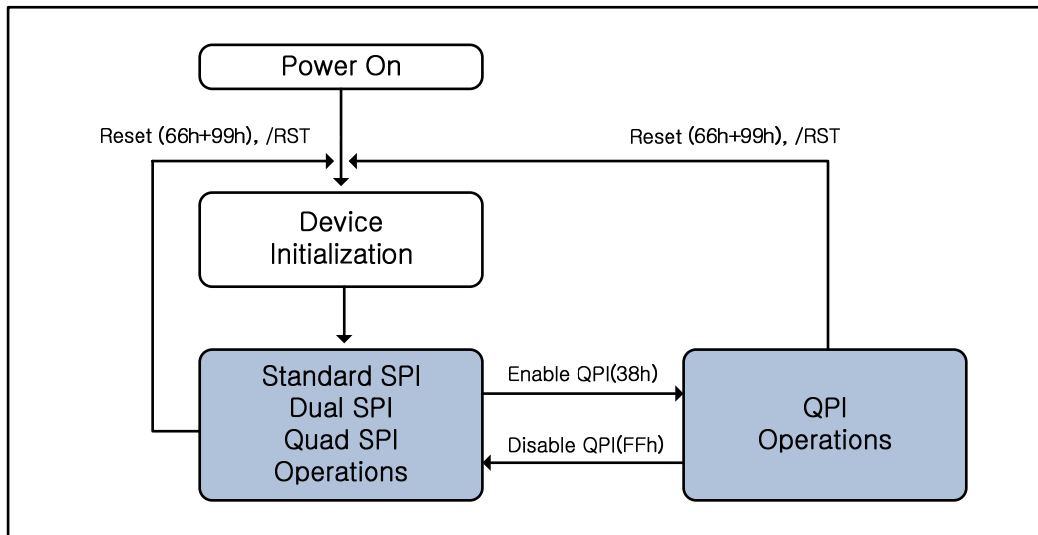

Figure 3. Operation Diagram of FM25M64A
The FM25M64A supports Quad Peripheral Interface (QPI) operation when the device is switched from Standard/ Dual/ Quad SPI mode to QPI mode using the “Enable QPI (38h)” instruction. To enable QPI mode, the non-volatile Quad Enable bit (QE) in Status Register-2 is required to be set. When using QPI instructions, the DI and DO pins become bidirectional IO0 and IO1, and the /WP and /HOLD pins become IO2 and IO3 respectively. See Figure 3 for the device operation modes.